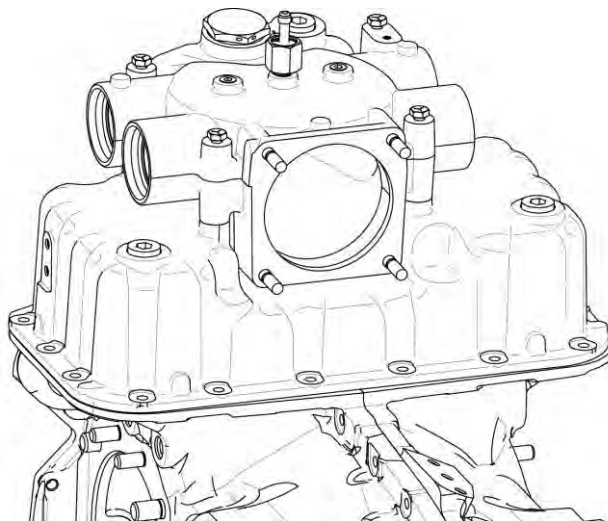

Figure 17
- F. Align the oil sump flange with the bottom of the mated crankcase halves as shown in Figure 17.